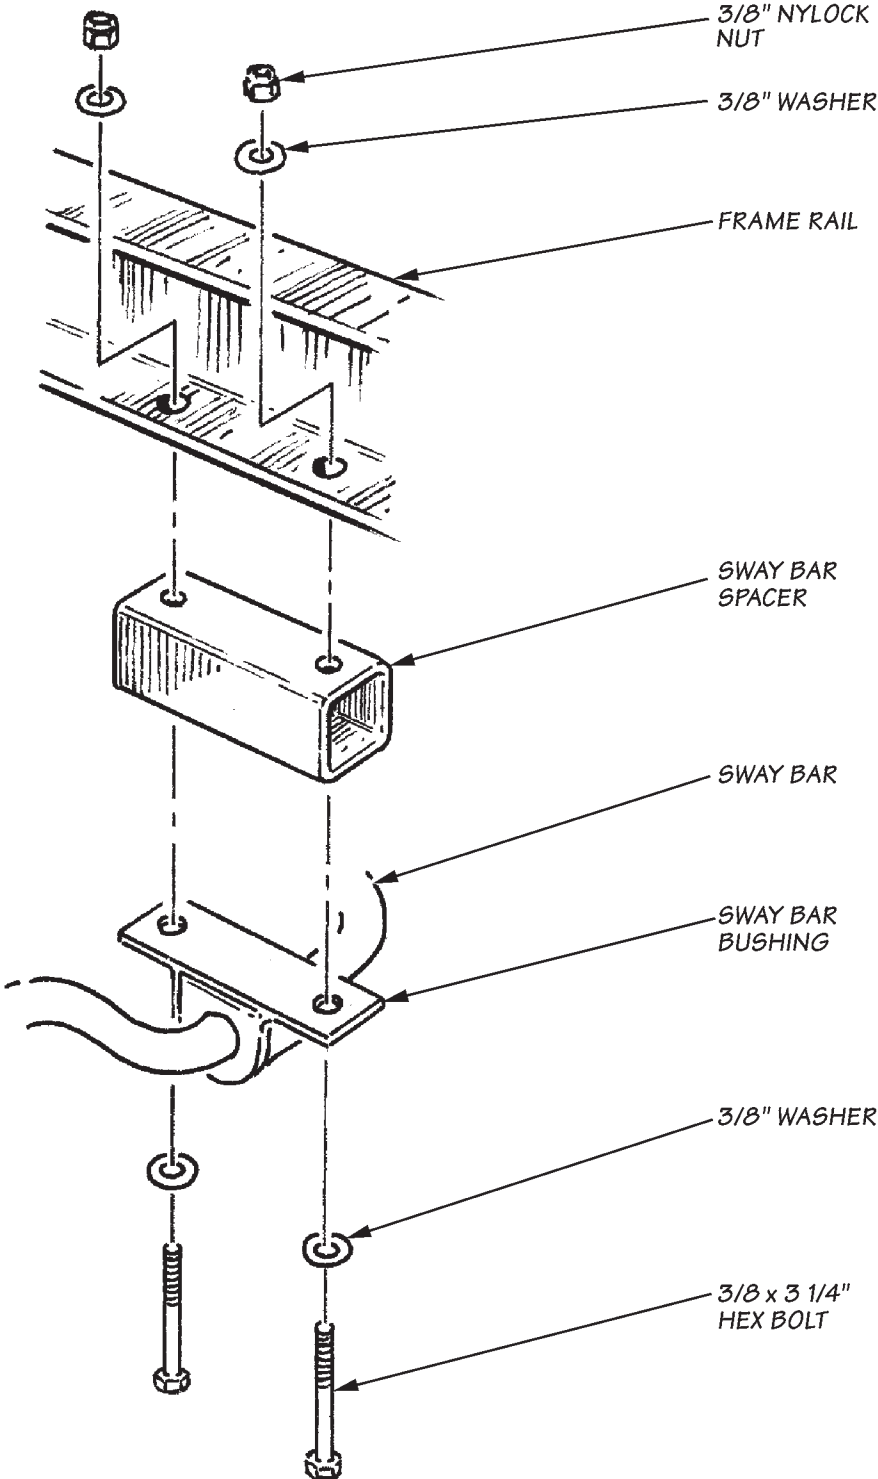

FIGURE 11
46. Install two rubber air-dams provided onto the drilled tabs on the intercooler end tanks. Use four #10-32 screws, washers, and Nylock nuts to attach each air-dam. **See Figure 11**.